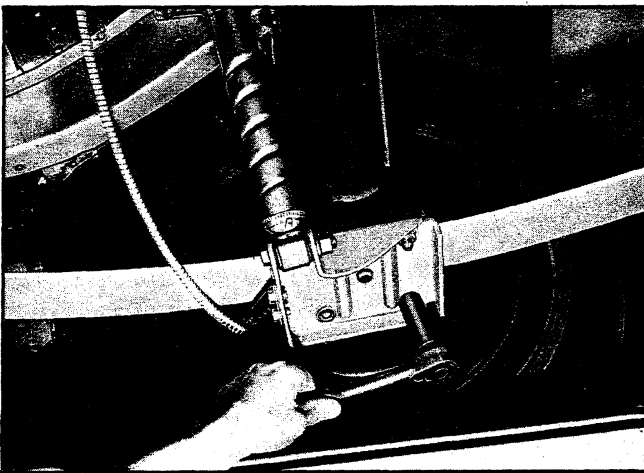

Fig. 18—Removing Lower Pad Bracket (Chevy II)
2. Pull parking brake cable out of lower spring pad mounting bracket clamp and disconnect cable above axle housing. Remove four nuts securing lower spring pad mounting bracket to axle spring seat (fig. 18). Drop lower bracket and remove rubber spring pad.